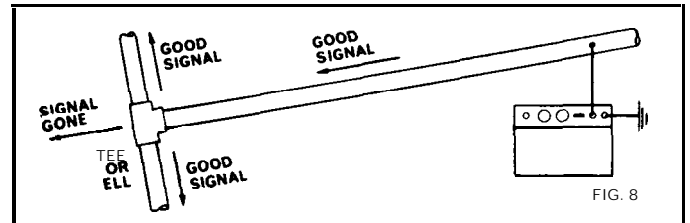

FIG. 8
6.4 BENDS AND STUB ENDS: When the signal fades out on a pipe run, it may mean a stub end or change in direction. Sweeping a traverse around the point of signal loss may reveal one or two signal paths in another direction, indicating an elbow or T connection. (Figure 8)